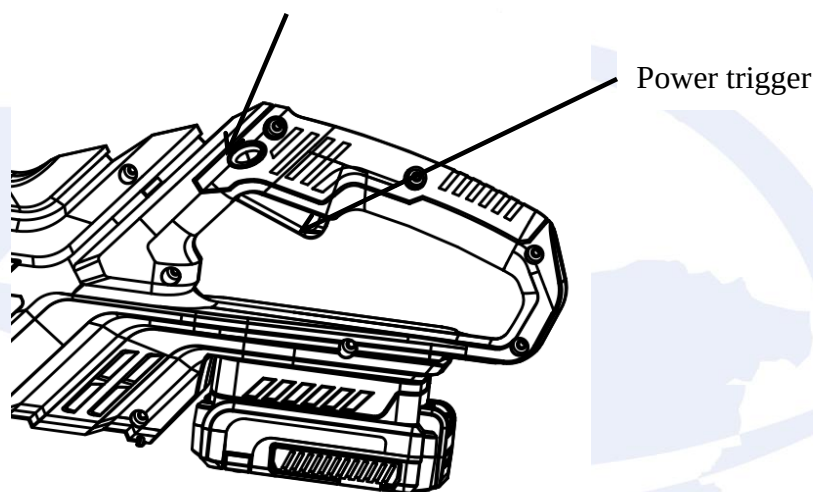

Figure 7
6. When ready to make a cut, press in power trigger lockout and squeeze power trigger(See **Figure 7**). This will turn the machine on. Releasing trigger or push the kickback guard to position **B** will turn the machine off. Make sure saw is full speed running before starting a cut.